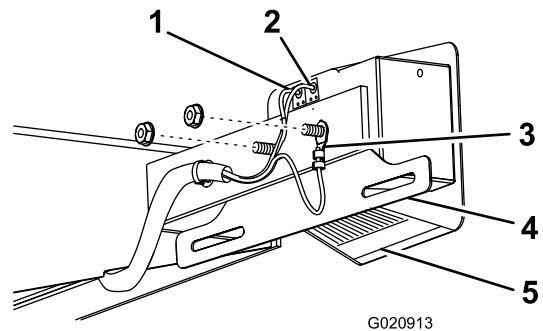

Figure 13
1. Position the license-plate holder onto the posts of the light with the clear bottom lens, so that the clear lens is facing the license-plate holder (Figure 13).
2. Install the light so that the posts go into the holes in the bracket on the left side of the machine (Figure 13).
3. Install the round terminal of the ground wire (white) onto the outside threaded post (Figure 13).
5. Push the wires into the appropriate holes in the light (Figure 13).